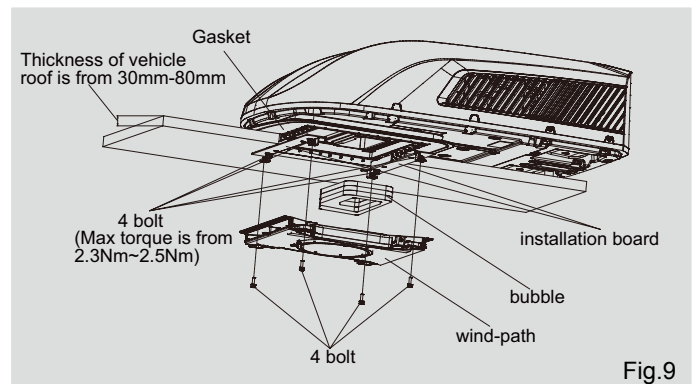

Fig.9
3. Then carry the outdoor unit to the vehicle's top and align with the openings on the vehicle's top. Use 2 sets of mounting plat assembly and 4 screw bolts to mount the outdoor unit (See Fig. 9).
After connecting the outdoor unit with indoor unit, check whether the foam assembly has come loose (See Fig. 9).